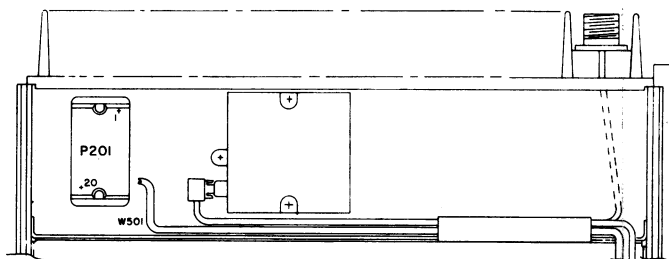

Figure 2 — Location of P201
5. Key the transmitter and carefully adjust R9 for a VOM reading of 13.0 volts as measured from P201-8 to P201-13 (ground) as shown in Figure 2.